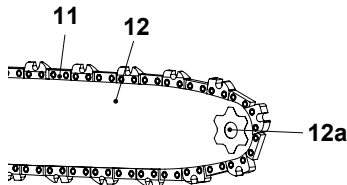

Fig. 4
- The saw chain movement is as indicated by the arrow. Make sure the saw chain (11) is properly placed over the sprocket wheel (12a) of the guide bar (12) (Fig. 4).